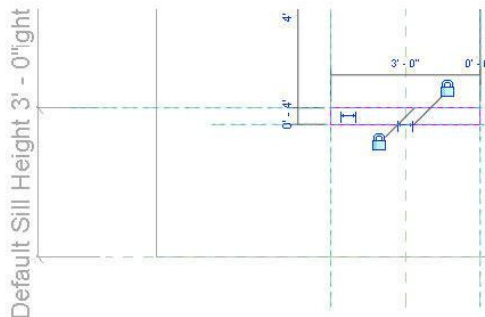

Figure 21. Creating the void sketch.
16. From the Create Void Extrusion ribbon, click on the Rectangle tool and create the rectangles shown in Figure 21, making sure to lock all lines to the appropriate Reference Planes so that they will move any time the window width, window height, sill height or lintel height changes.
28. Using the same procedure you used to create the void sketch, create the sketch for the sill and lintel, again locking your lines to the appropriate Reference Planes as shown in Figure 21.